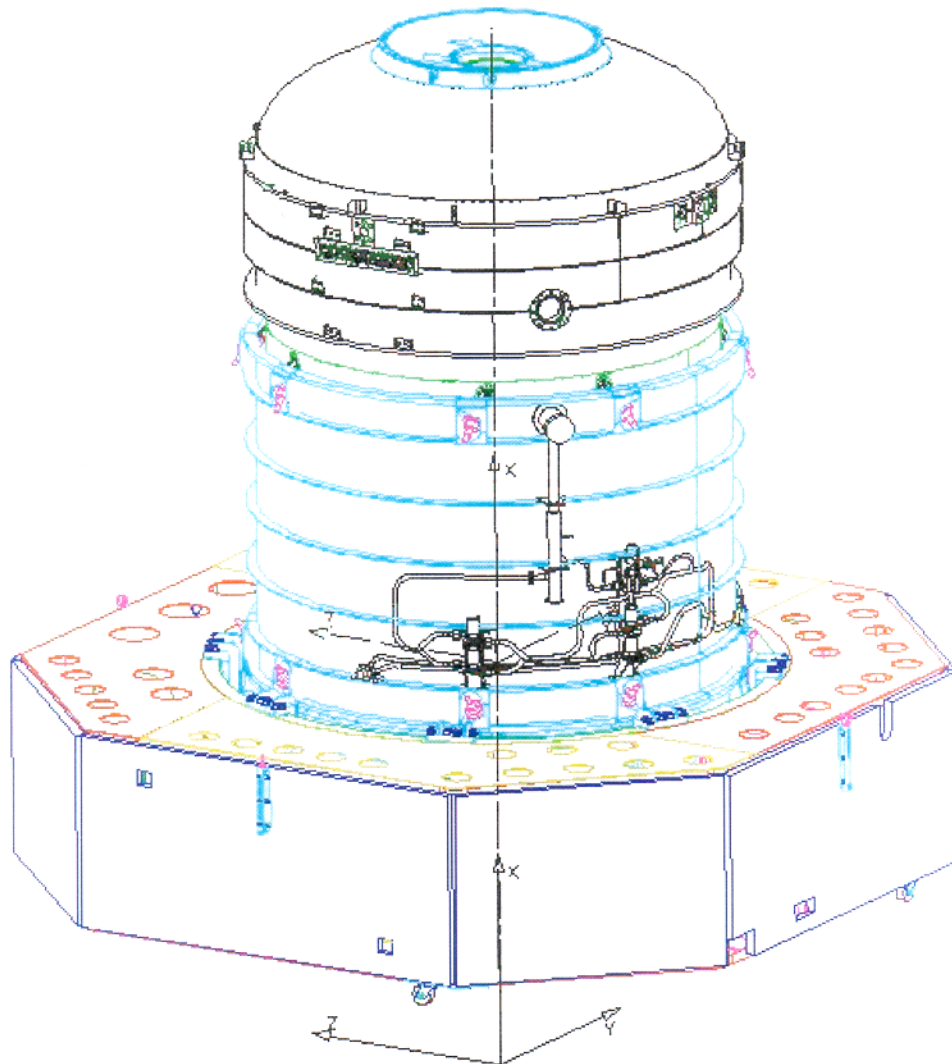

Fig.: 3 3D view of PLM/EQM with SVM simulator (CTA not shown)
- SVM platform with support frame, equipped with warm units AVM's. Arrangement of SVM platform representative to PFM in position and size (wave guide configuration and external instrument harness routing identical to PFM) see Fig.: 3